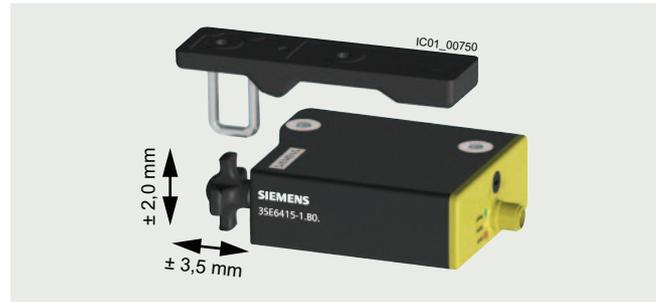

Fig. 1: Actuator tolerance
- High actuator tolerances, see Fig. 1: